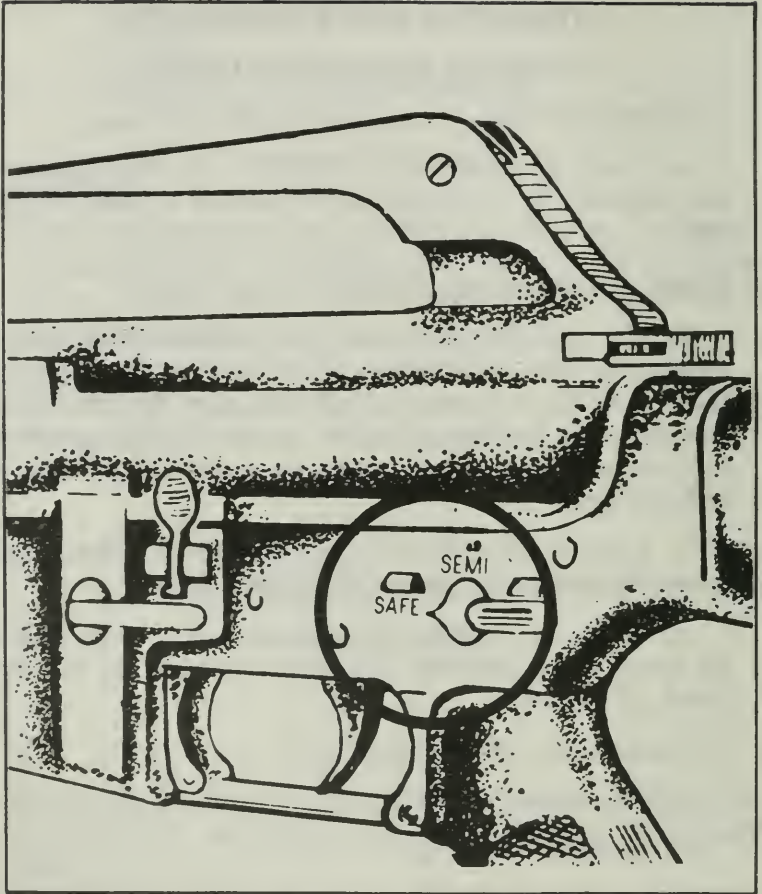

Figure 49. Selector lever on safe.
a. Turn the selector to "SAFE". If the weapon is not cocked, the lever cannot be turned to safe (Figure 49).